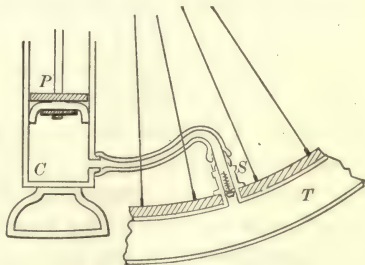

FIG. 78. — Air compressor.
85. Air compressors. The simplest form of air compressor is the ordinary bicycle pump, such as is used to inflate the tires on bicycles and automobiles. Figure 78 shows a sectional view of such a pump attached to a tire. It consists of a cylinder *C* and piston *P*. On the down stroke some air is entrapped below the piston and compressed, its pressure rising until it becomes equal to that of the air already in the tire. Then the valve *S* opens, and